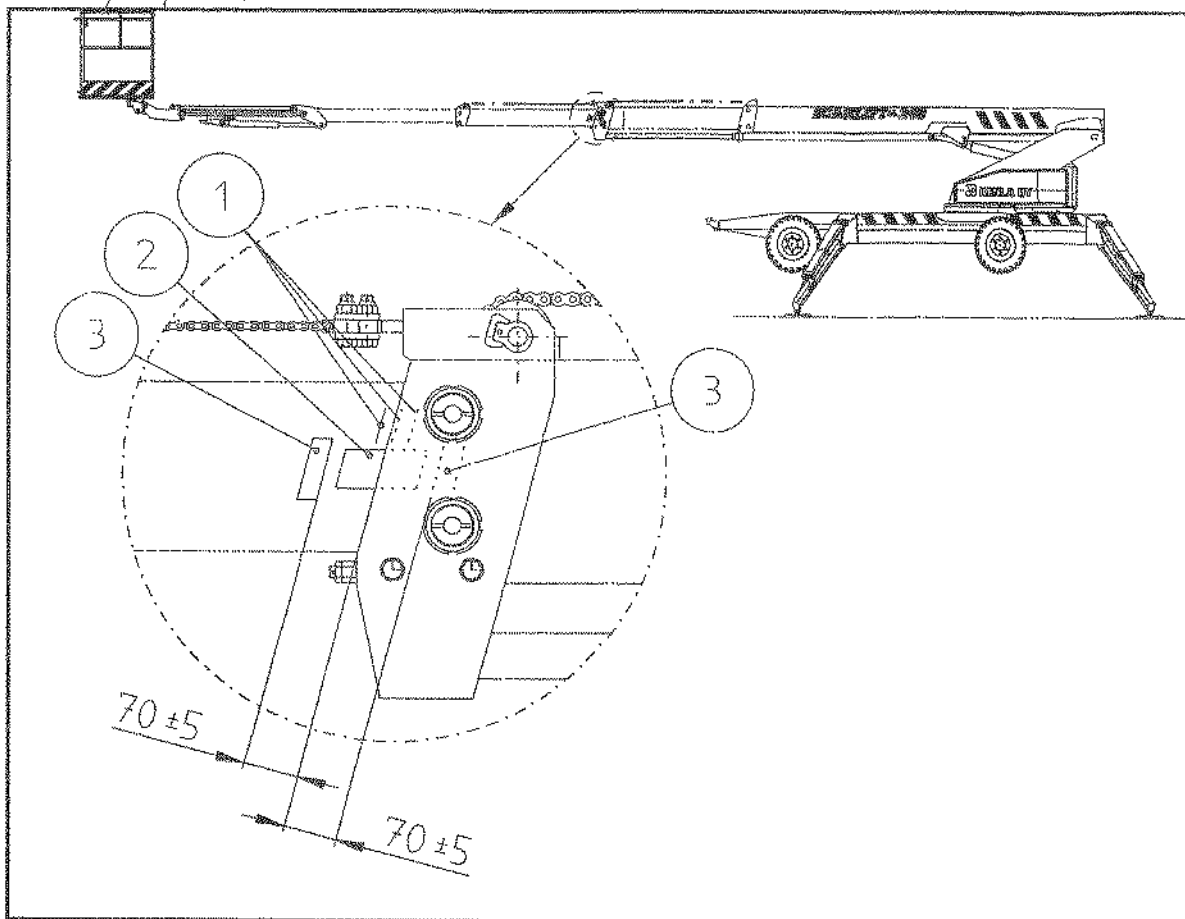

Figure 33-1
6. Retract the telescope fully. Repeat item 5 three times.
7. Mark the stopping point of the telescope each time to the middle boom extension at the mouth of the previous boom extension (ref. 1, figure 33-1).
10. Take the average of the three markings and place the middle of decal 2 (figure 33-1) there. Paint markings on the booms as indicated in figure 33-1. Position decal and painted markings so that side glide pads of the booms do not rub them.